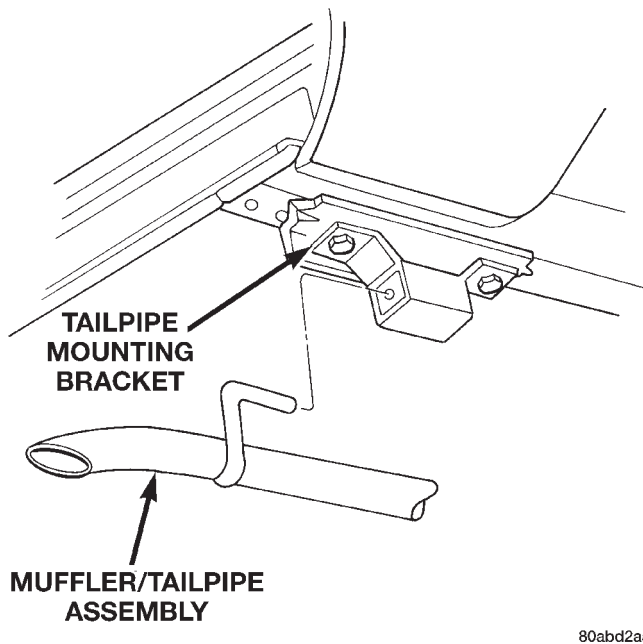

Fig. 7 Rear Exhaust Tailpipe Mounting Bracket
(4) Heat the catalytic converter-to-muffler connection with an oxyacetylene torch until the metal becomes cherry red.
(5) While the metal is still cherry red, remove the exhaust muffler/tailpipe assembly from the catalytic converter.
(6) Slide the muffler/tailpipe assy. rearward and out of the rear exhaust tailpipe mounting bracket (Fig. 7).
(7) Remove the muffler from the exhaust tailpipe: